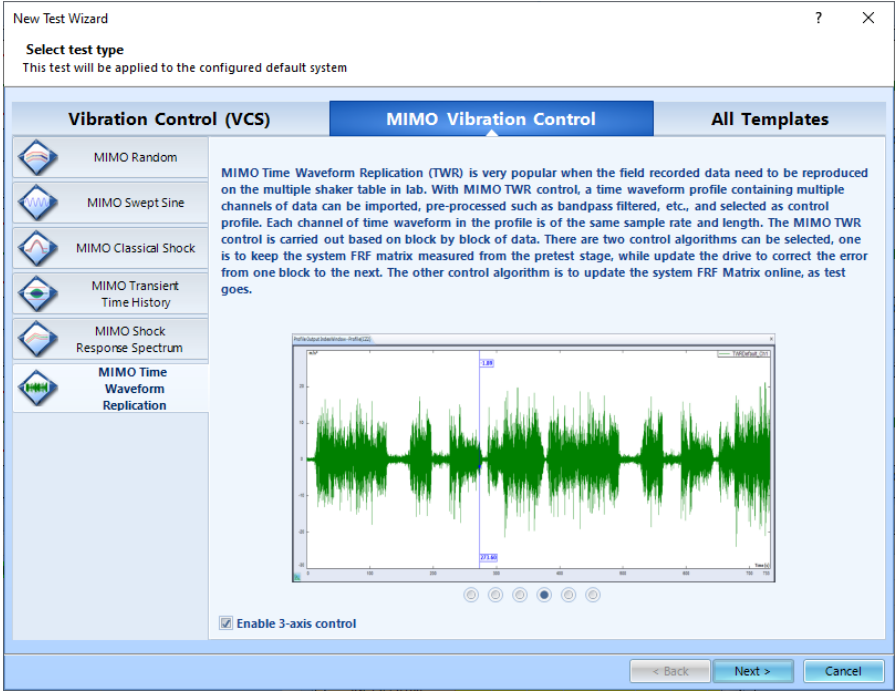

Figure 2.3 EDM MIMO VCS Software
3. The resampled waveform is then imported into the Crystal Instruments' MIMO TWR (Time Waveform Replication) test of the MIMO VCS software. (Figure 2.3)